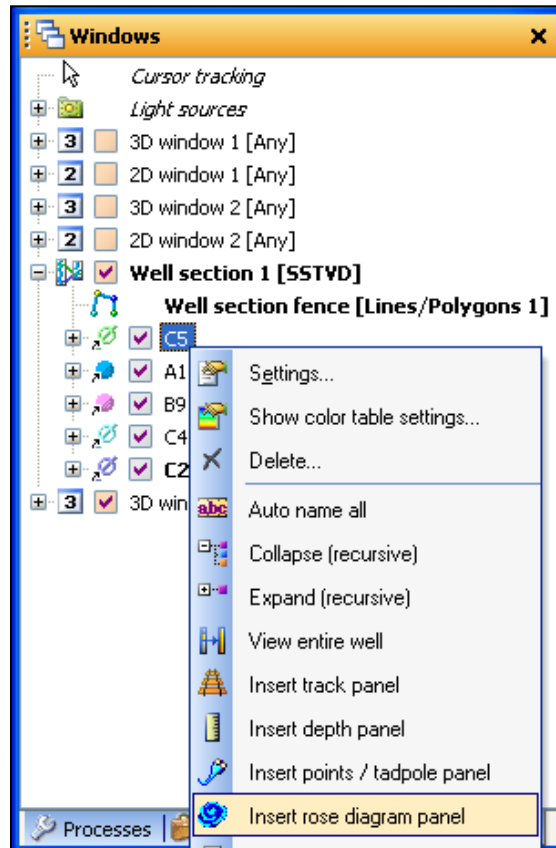

Fig.10.26: Insert Rose diagram panel for well C5
4. Press OK. The new log will be placed under the Global Well Logs folder. See Fig. 10.26.